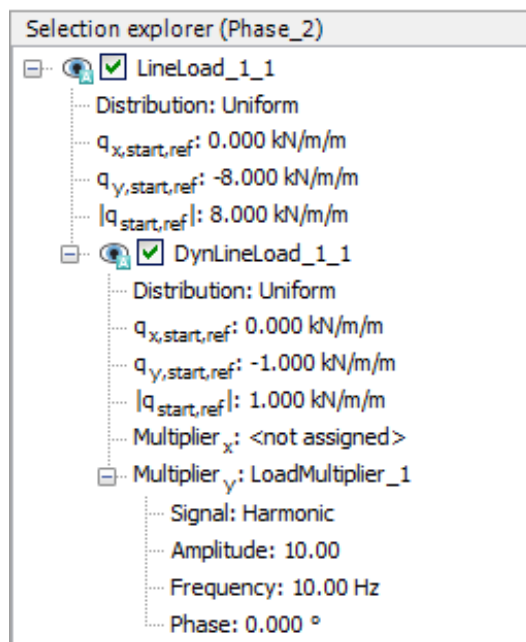

Figure 195: Specification of the dynamic load component in the **Selection explorer**
11. Specify the components of the load as  $(q_{x, start, ref}, q_{y, start, ref}) = (0.0, -1.0)$ . Click Multiplier\_y in the dynamic load subtree and select the LoadMultiplier\_1 option from the drop-down menu as shown in Figure 195 (on page 220).